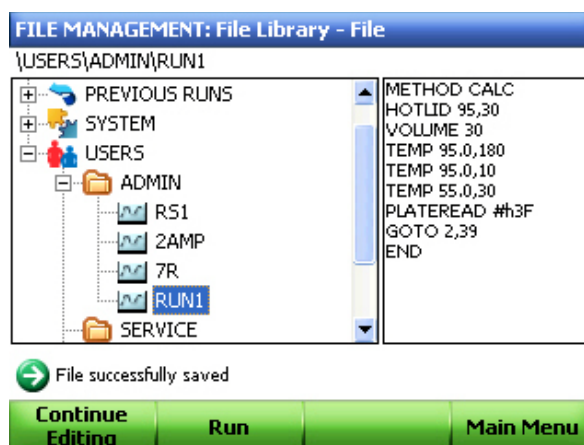

Figure 42. Protocol successfully saved.
- Click **Run** (F2) to continue and run the protocol (Figure 42).